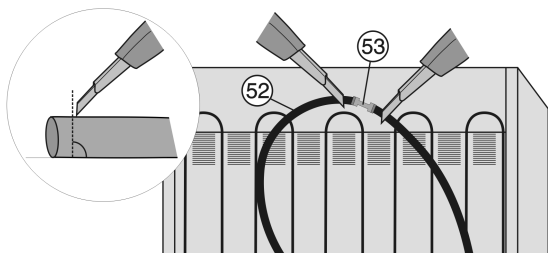

Fig. 17*
- Slice open the water hose Fig. 17 (52) located behind the appliance both in front of and behind the connector Fig. 17 (53) (90° to direction of hose).*